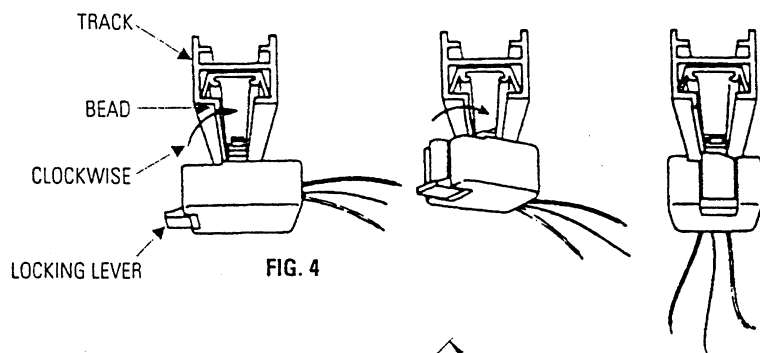

FIG. 4
3. Insert FITTING into TRACK (Fig. 4) with LOCKING LEVER on same side of track as BEAD.